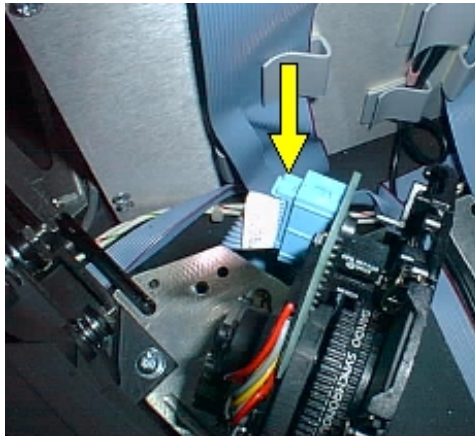

Figure 105 Excitation filter wheel cable
3. Unplug the excitation filter wheel cable, as shown in Figure 105.